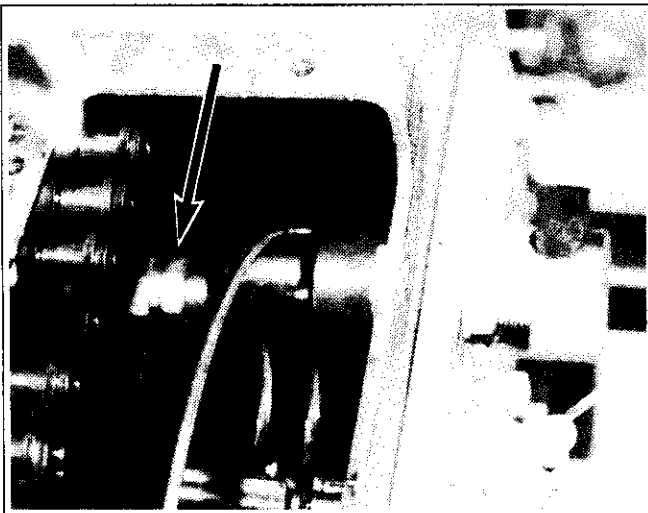

Figure 6-5
4. Loosen 3/4 inch brake adjusting bolt at end of caliper (approximately 2 full turns) to allow maximum travel of the "stationary" puck. (See figure 6-5)